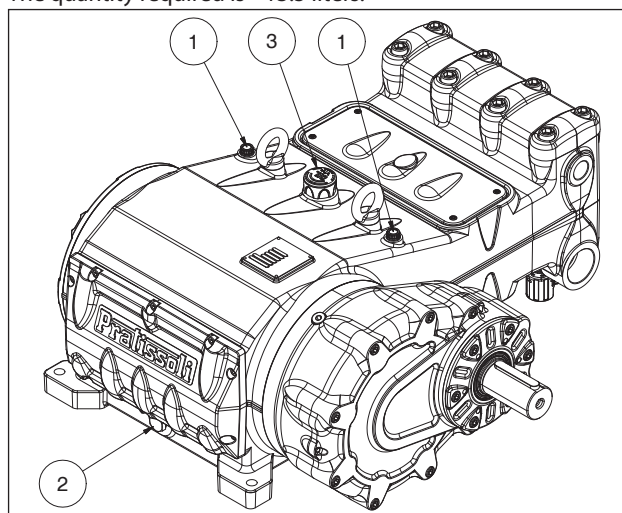

Fig. 3
Check the oil level via the oil dipsticks that have minimum and maximum marks ①, Fig. 3.
If necessary, top up via the oil cap ③, Fig. 3.
The correct checking of the oil level is made with the pump not running, at room temperature. The oil change must be made with the pump at working temperature, removing the plug pos. ②, Fig. 3.